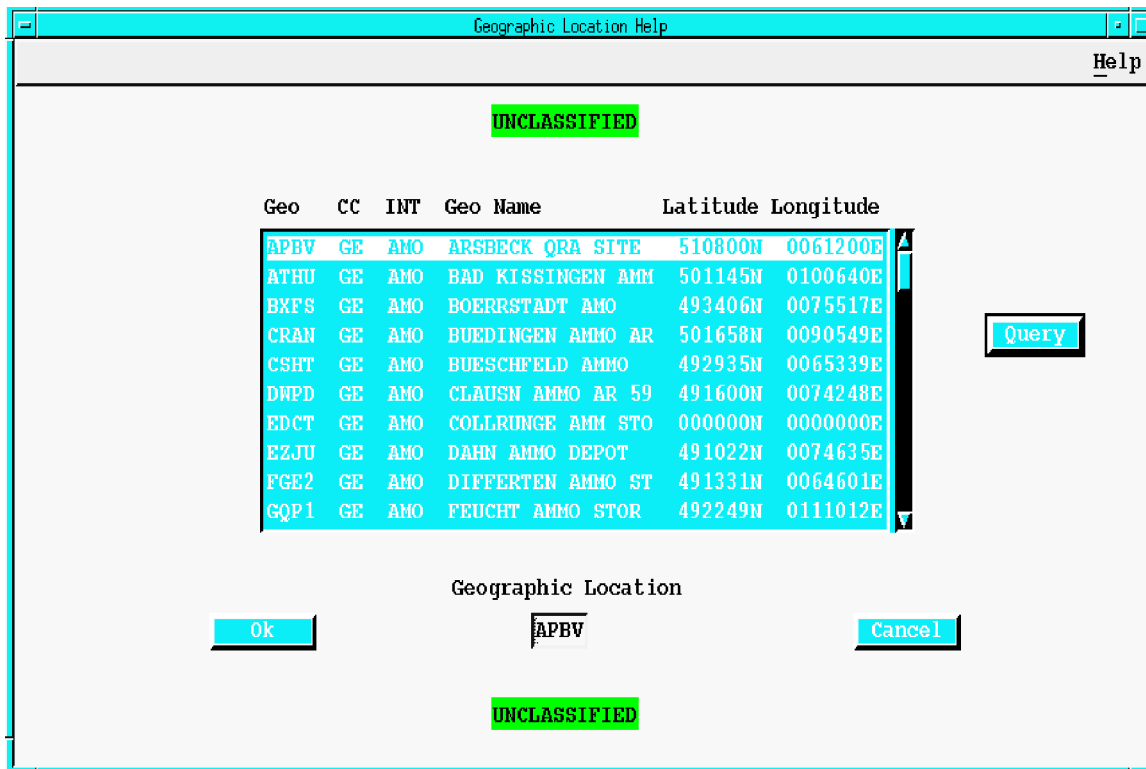

Figure 5.3.2.2.1-1. Geographic Location Help Window
Geo Help provides the user the capability to search for, select, and replace geolocation data. To use this utility, the user clicks on the **Dest Geo** modify box on the **Modify Forces by Service** window, and then clicks on the **{Geo Help}** button. This sequence should be followed because changes committed in the **Geo Help** will replace data on the **Modify Forces by Service** window. Figure 5.3.2.2.1-1, Geographic Location Help Window, is the first window that the user sees when selecting **Geo Help**.
If the locations displayed do not meet the user's needs or are blank, pressing **{Query}** will initiate a new search for an appropriate geolocation. The **{Query}** button on the **Geographic Location Help** window will display the window in Figure 5.3.2.2.1-2, Geographic Location Query Window.
This window provides the user up to five options to qualify a query. These options are: Country Code (CC) and Name, Installation Type Code (ITC), Geographic Location Code, Geographic Location Name, and Latitude/Longitude ranges. Each additional qualification used will further define and narrow the scope of a query. The user will receive a pop-up notification of the number of locations in a collection resulting from a query upon selecting **{OK}**. The **{Retrieve}** button will retrieve the rows into the **Geographic Location Help** window as displayed in Figure 5.3.2.2.1-2, Geographic Location Query Window. The **{Cancel}** button will return the user to the **Geographic Location Query** window without retrieving the rows.